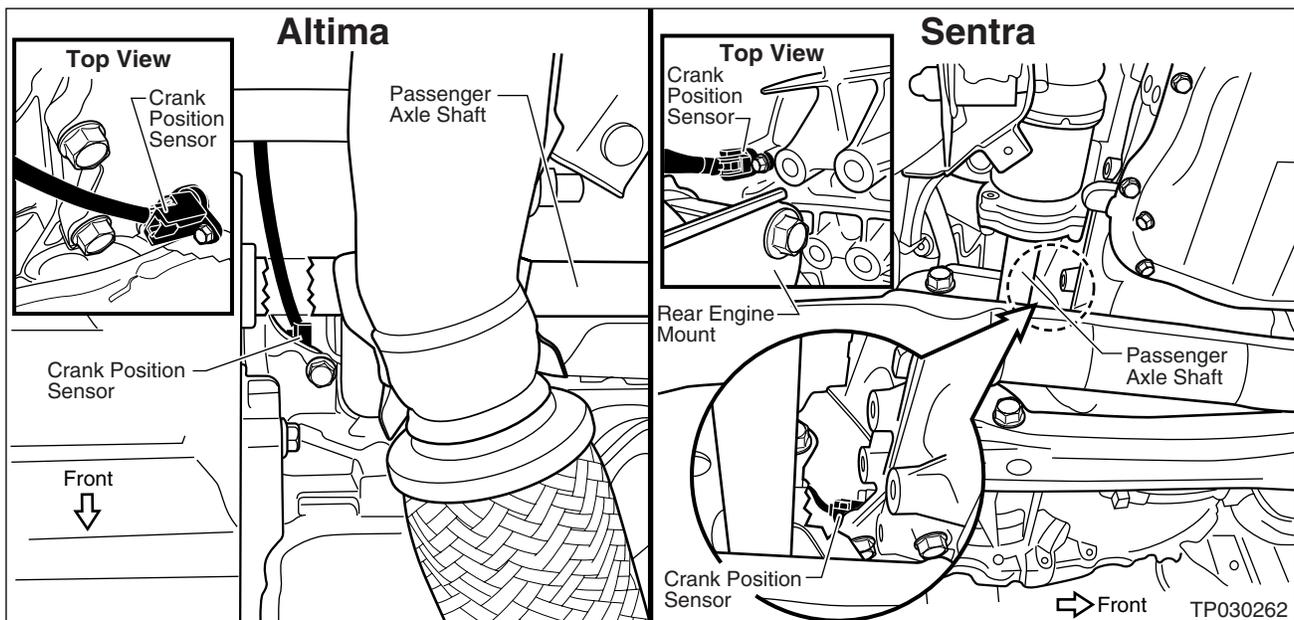

Figure H2
- Remove the Crankshaft Position Sensor before separating the engine and transmission. Do NOT damage the edge of the Crankshaft Position Sensor or the ring gear teeth. Pull the sensor straight out to help avoid damage. See Figure H2.